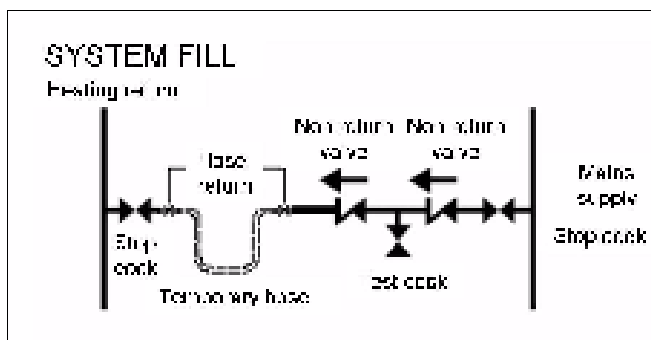

Fig. 50 Requirements Fluid Category 3 systems
- Slightly raise the front wall and remove forward (Fig. 50).